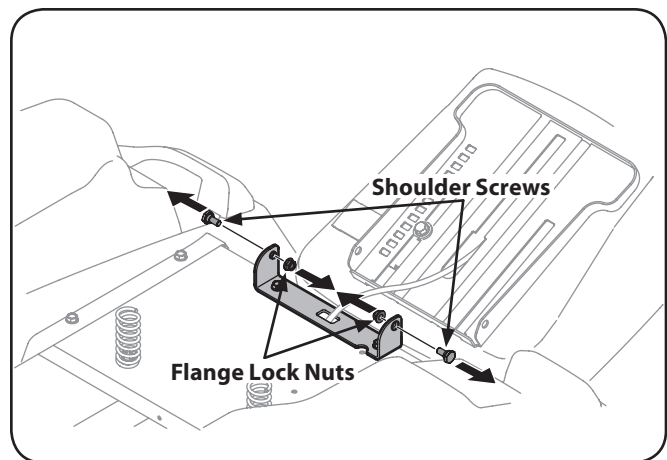

Figure 3-4
2. Remove the two shoulder bolts and flange locknuts in the seat pan as shown in Figure 3-4.